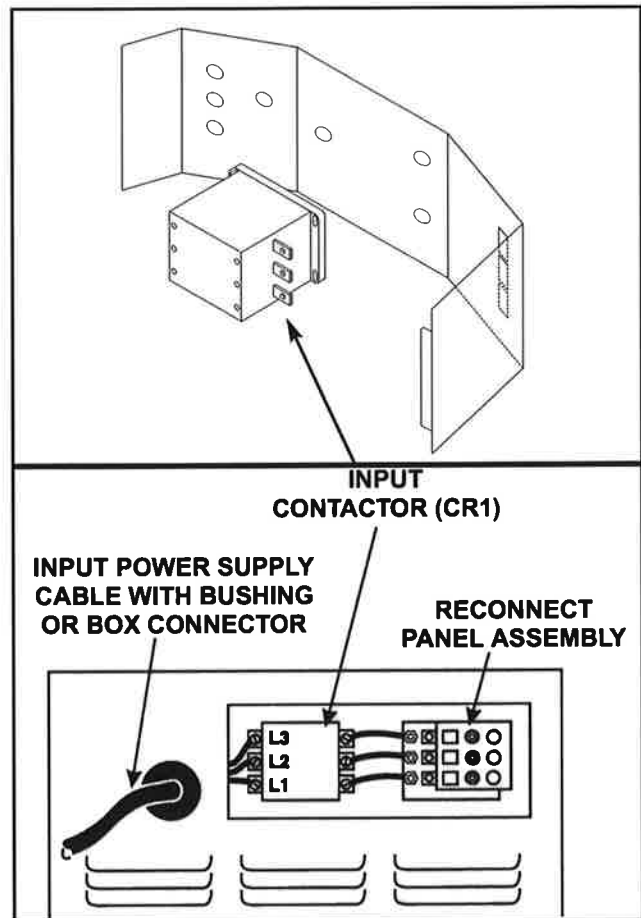

FIGURE A.3 - Input Power Supply Connections
5. Connect the three-phase AC power supply leads L1, L2, and L3 to the input contactor terminals in the Input Box Assembly by passing them thru the three aligned .50" diameter holes in the baffle and tighten them in the terminal connectors. Be sure to close the baffle by inserting the tab into the slot in the baffle. See Figure A.3.